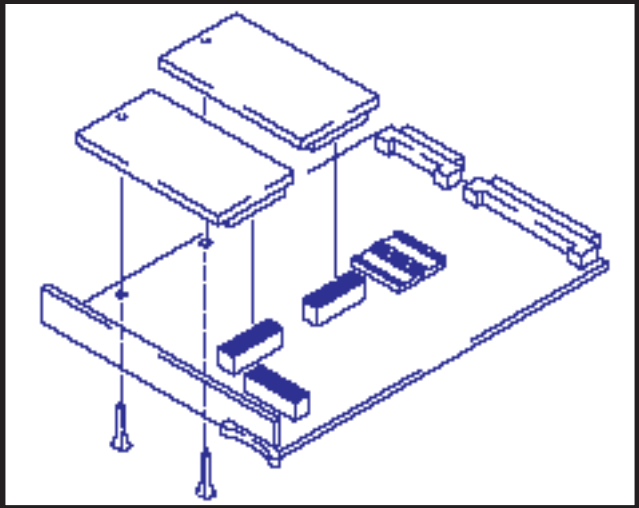

FIGURE 4-16—NRCU MOUNTING
**3.32** If NRCUs are to be installed, mount them on the NPRU. The first NRCU mounts on connector J3, the second on J4 (see Figure 4-16).